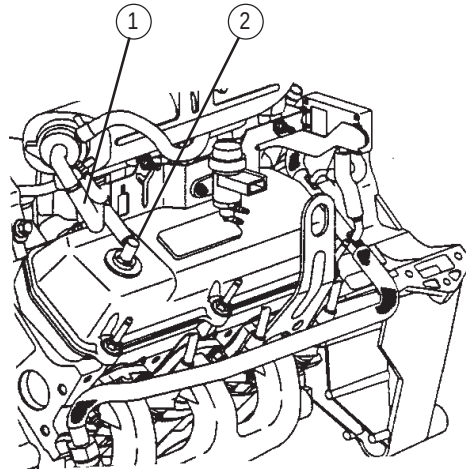

Fig. 12 – Removing/Installing the PCV Valve
1. Detach the hose (1) Fig. 12, from the top of the PCV valve located at the top rear of right valve cover (2) and from the inlet manifold.
2. Withdraw the PCV valve from the valve cover (2).